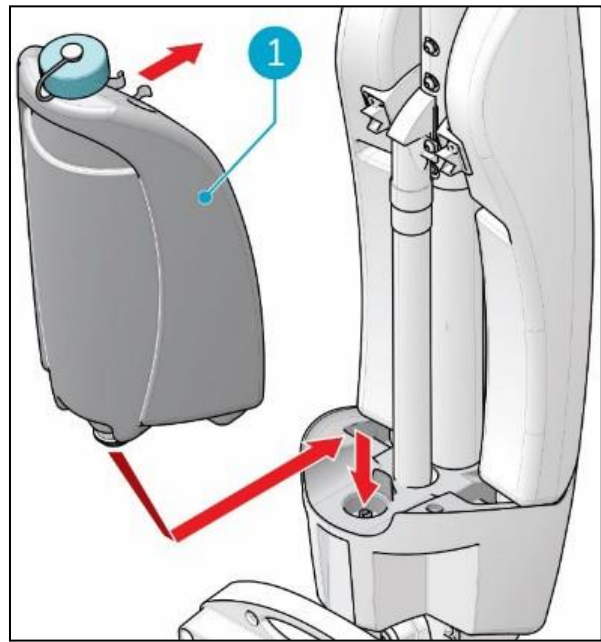

Figure 12
1. Put the tank (Figure 12, pos 1) on the i-mop® XL Plus with the valve first.